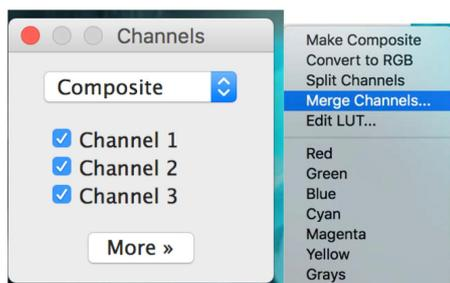

Figure 20. Apply the colors to your pictures
15. On the channel window, click on 'more' and then click on the required color for your selected picture. Apply the colors to all pictures (Figure 20).